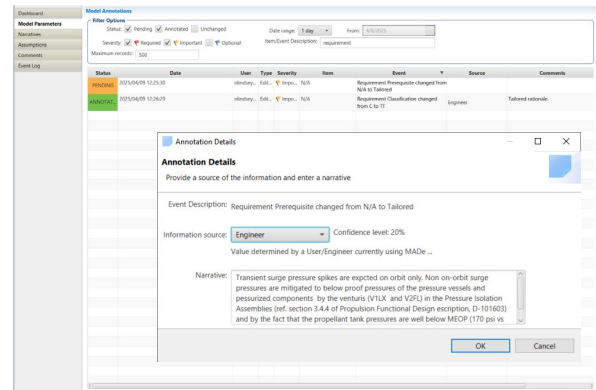

Figure B59: Annotations Window
- 2) If the *Tailored* classification is used (as is needed for NASA System Safety), the revised text should be put in the *Prerequisite* field (Figure 58), and the tailoring rationale for the change should be put in the *Annotation* for the *Classification* change event by opening the “Annotations” editor under the “Modeling” menu and locating this change event, double clicking on it, entering the rationale in the narrative textbox, and clicking “OK” (Figure B59). The resulting rationales will be displayed in the *Annotations* window’s table and can be edited/updated using the same process and accepted by editing and adding a comment (“Tailoring Rationale”) and clicking “OK.”